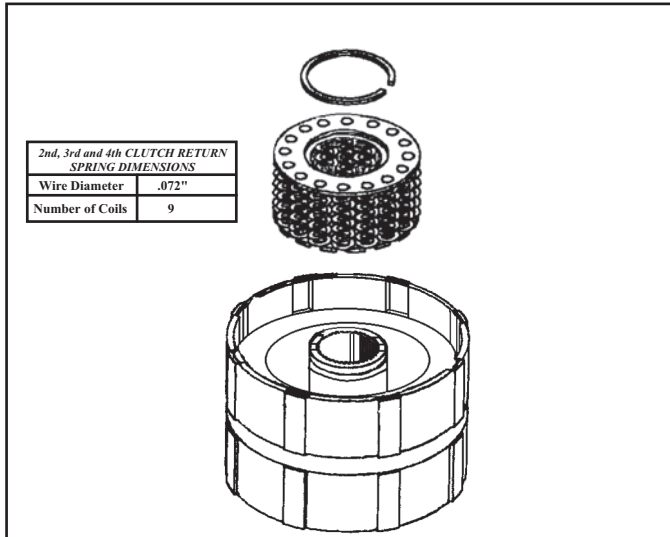

Figure 114
1. Place the piston return spring assembly into the 3rd clutch drum. Using Saturn's spring compression tool SA9146T or equivalent, carefully compress the spring. With the spring compressed, use a suitable pair of snap ring pliers and install the retaining snap ring (See Figure 114).